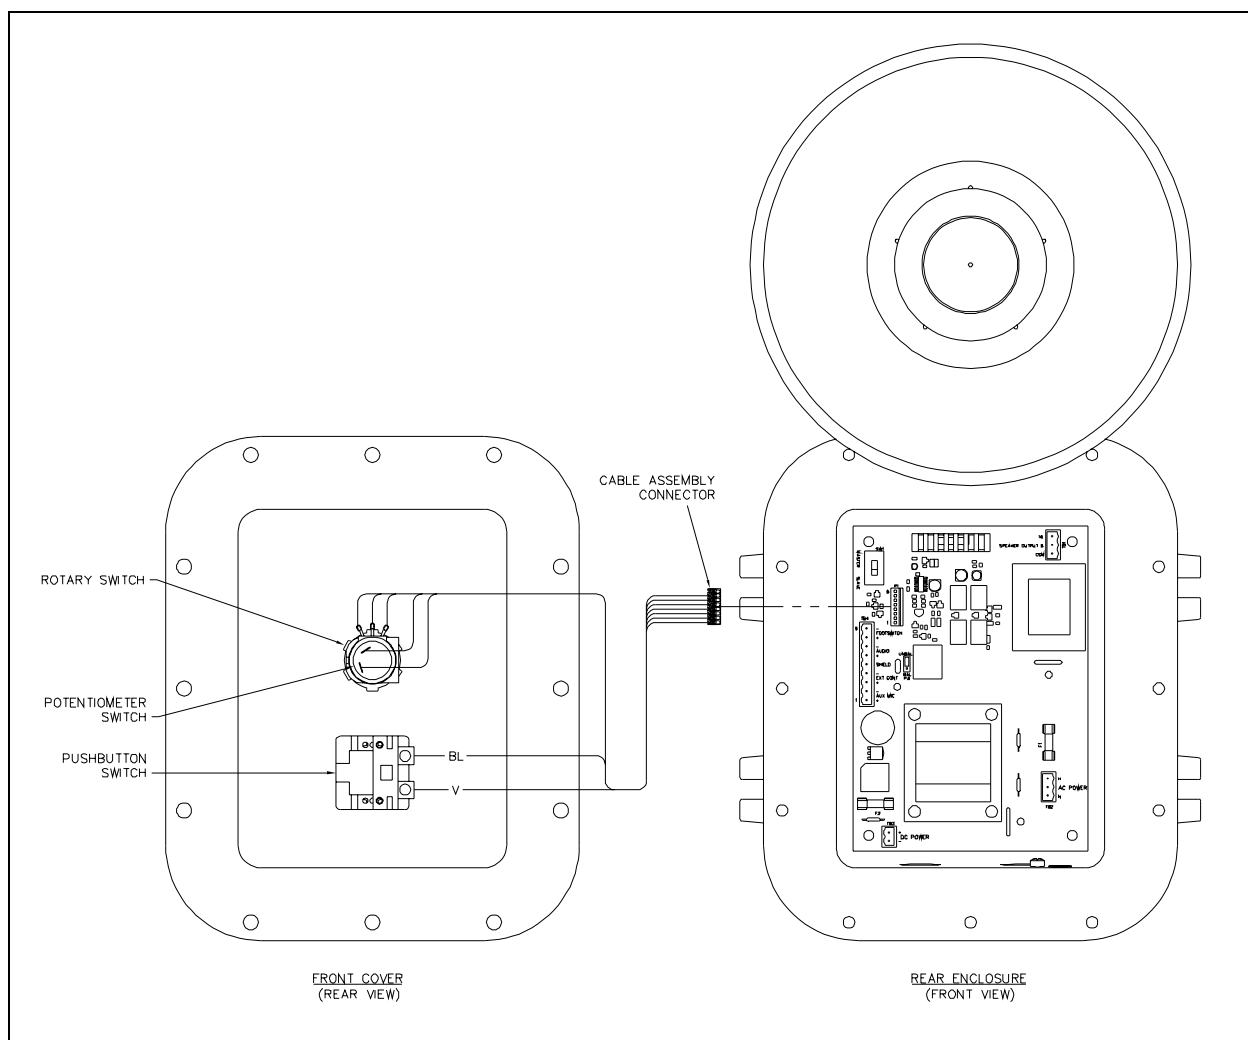

Figure 1. Switch Replacement Diagram
2. Unplug the cable assembly from the PCBA in the rear of the enclosure. See Figure 1.
11. Screw blue and violet wires into the push-button switch per Figure 1.
12. Plug in the connector on the cable assembly into the PCBA. See Figure 1.